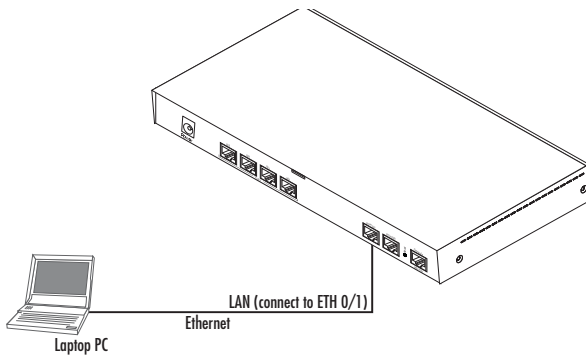

Figure 1. Connecting to the PC
1. Connect the PC's Ethernet port to LAN (ETH 0/1) port of the SmartNode 4960. The SmartNode 4960 Series is equipped with Auto-MDX Ethernet ports, so you can use straight-through or cross-over Ethernet cables for host or hub/switch connections. (See figure 1.)